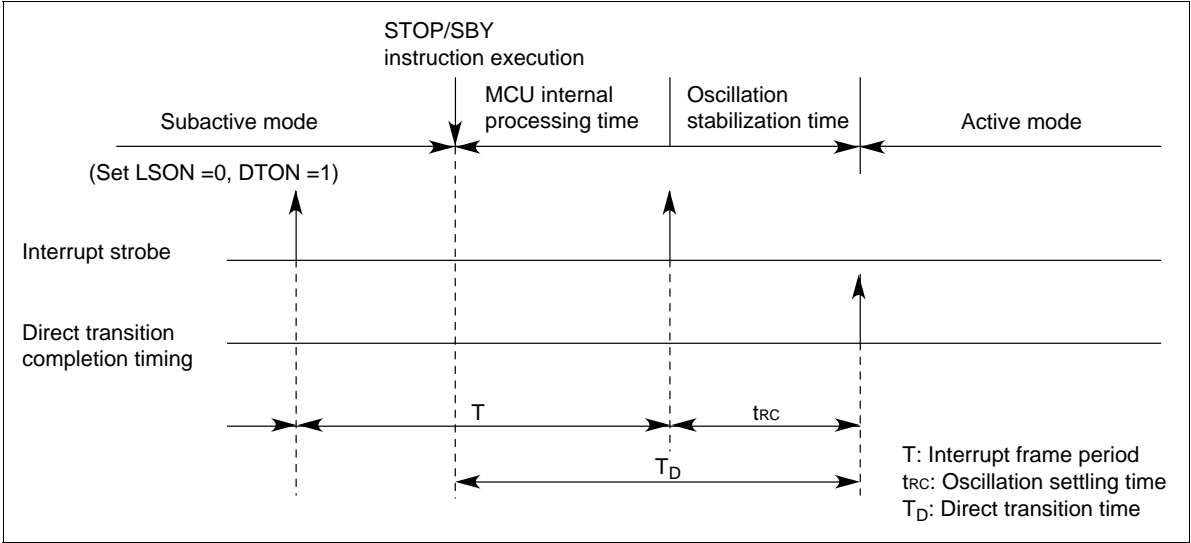

Figure 16 Direct Transition Timing
- (c) After the lapse of the MCU internal processing time and the oscillation settling time, the MCU automatically switches from subactive mode to active mode (figure 16).